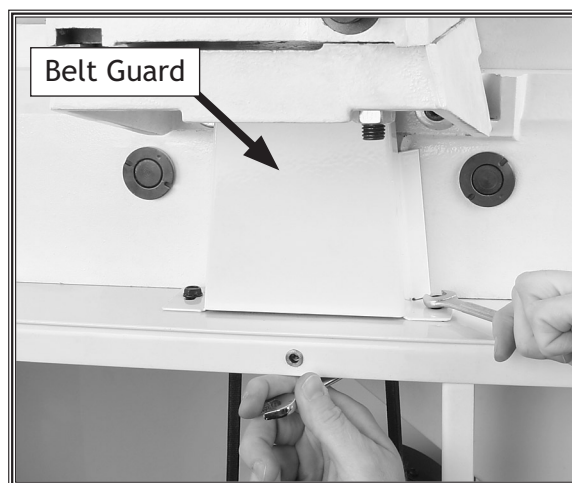

Figure 15. Installing the belt guard.
15. Install the belt guard with the two M6-1 x 10 flange bolts, M6-1 hex nuts, and 6mm flat washers, as shown in **Figure 15**.